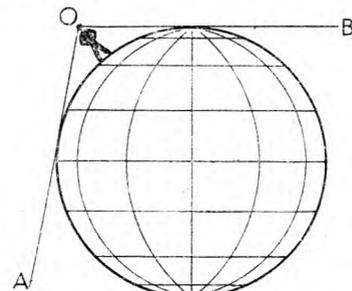
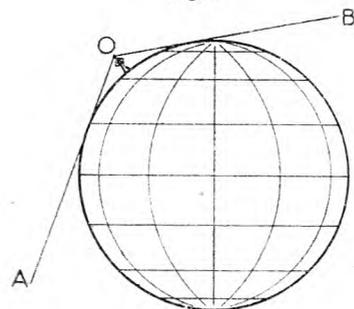
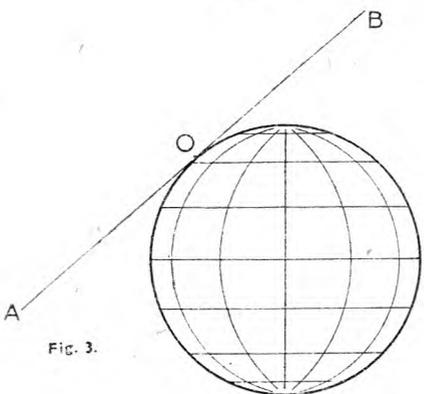
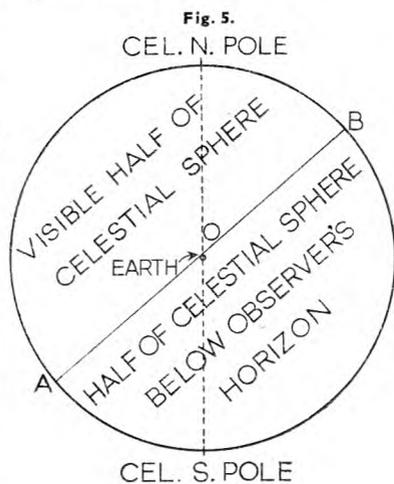

Fig. 1.
Fig. 2.
Fig. 3.
Fig. 5.
Figs. 1, 2 and 3 show a system of locking the undercarriage with a hook type of lock. The hook is shown in Fig. 1. The lock jack is hydraulically operated to lift it. As soon as the hydraulic pressure is taken away, the spring closes the hook. A pin on the leg hits the hook on the cam-shaped face, and forces it upward against the load exerted by the spring. The hook snaps to over the pin, and is
On large aircraft which have framed legs, that is, two oleo legs to each wheel, one on each side, it is usual to have two locks at the bottom and one at the top. The hydraulic piping diagram for such a system is shown in Fig. 2. Supposing the undercarriage were retracted and the pilot wished to land. He selects "down" on the control unit and the hydraulic fluid is directed into the "down" line. The two upper hooks are connected to this circuit, so that the locks are released and the undercarriage is free to descend. Immediately it reaches its full "down" position the four bottom locks will snap to over the pins on the legs, and the indicator in the cockpit will show green. When the legs are up two red lights show. In addition to the two red and two green, there may be a master red light, which is lit the whole of the time the legs are not locked down. Thus if one of the green lights failed, but the master red light was off, it would probably be found that a
Fig. 1 shows a very large man standing on a very small earth. It is clear that he can see anything which lies on the sides of the lines OA and OB away from the earth. In Fig. 2 a rather smaller giant is standing in the same position; owing to the fact that his eyes are nearer to ground-level the lines OA and OB more nearly
form a single straight line than in Fig. 1. These two cases obviously do not correspond with conditions met with in actual fact, since even if we climb a high mountain or go for a flight in a stratosphere aircraft our eyes are only a very short distance above the earth's surface as compared with its diameter (some 8,000 miles). Therefore, for all practical purposes we can regard our eyes as being actually on the surface of the earth, so that the line AOB separating what is visible and invisible to our observer (now reduced to a man of normal stature) becomes in fact a straight line (Fig. 3).
must be represented as a microscopic pin-point. This has been done in Fig. 5, and our line AOB of Fig. 3 has become a line passing through the centre of the circle which represents the Celestial Sphere, thereby cutting it into halves. Remembering that an observer can look all around him, this line actually represents a flat surface—in fact, a disc, the centre of which is the centre (O) of the Celestial Sphere and which divides the latter into two equal parts.
We have now answered part of our original question: From a given place you can always see exactly half of the Celestial Sphere—that is, half of the entire heavens—at any moment. Thus all the stars to be left of the line AOB in Fig. 5 are visible to an observer situated at the same spot on the earth's surface as the observer of Fig. 3.